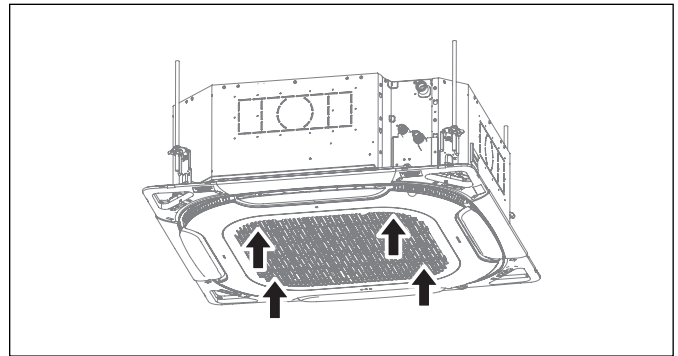

Figure 80
- d. Push the air grille up into the air inlet of the indoor unit until all four sides click into place (see Figure 80).